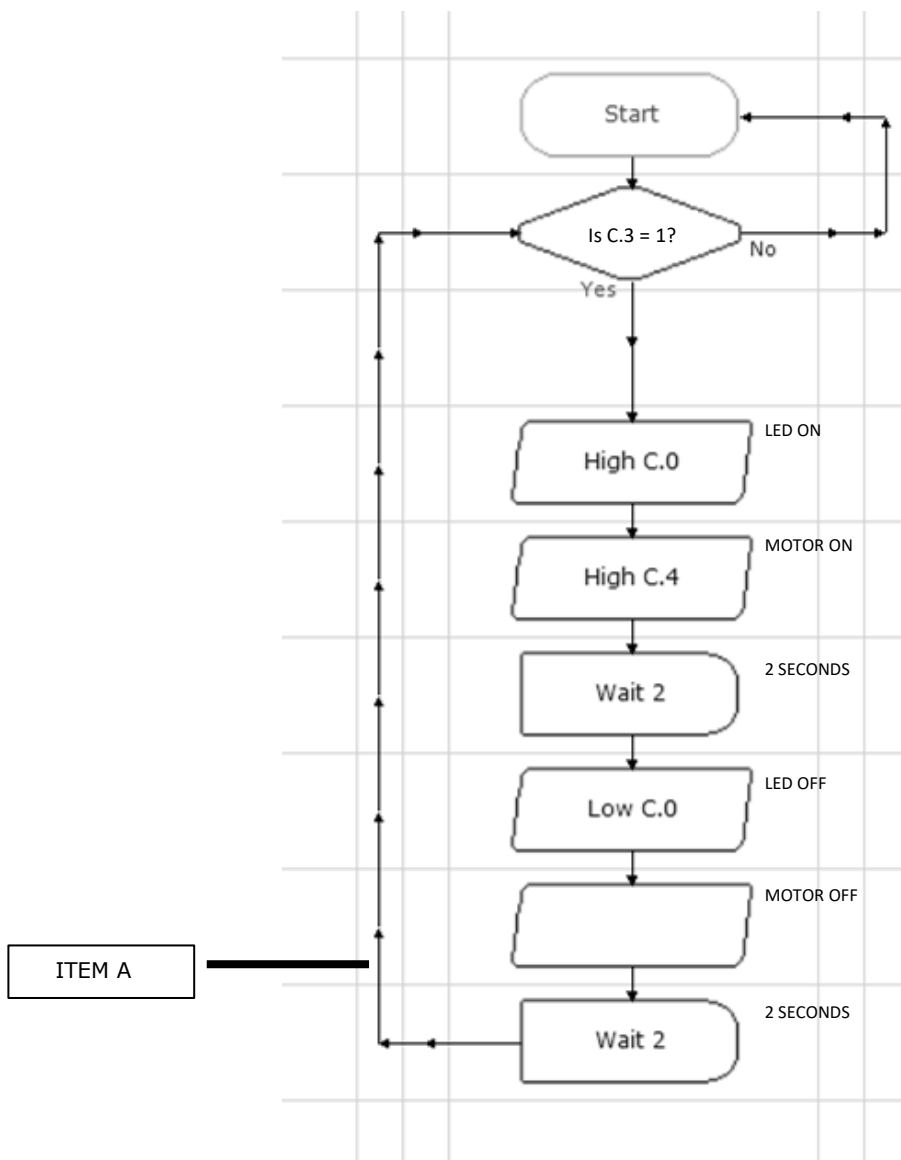

Figure 15
20. Figure 15 shows the flowchart used to program the microcontroller circuit.
- a. On the given flowchart identify and label **ONE** digital input. (1)
- b. On the given flowchart there is a missing command regarding switching OFF C.4. Fill in the command in the empty flowchart symbol. (1)
- c. Refer to the connector labelled 'ITEM A' on the given flowchart. Choose the statement, which best describes the function of the connector. (1)